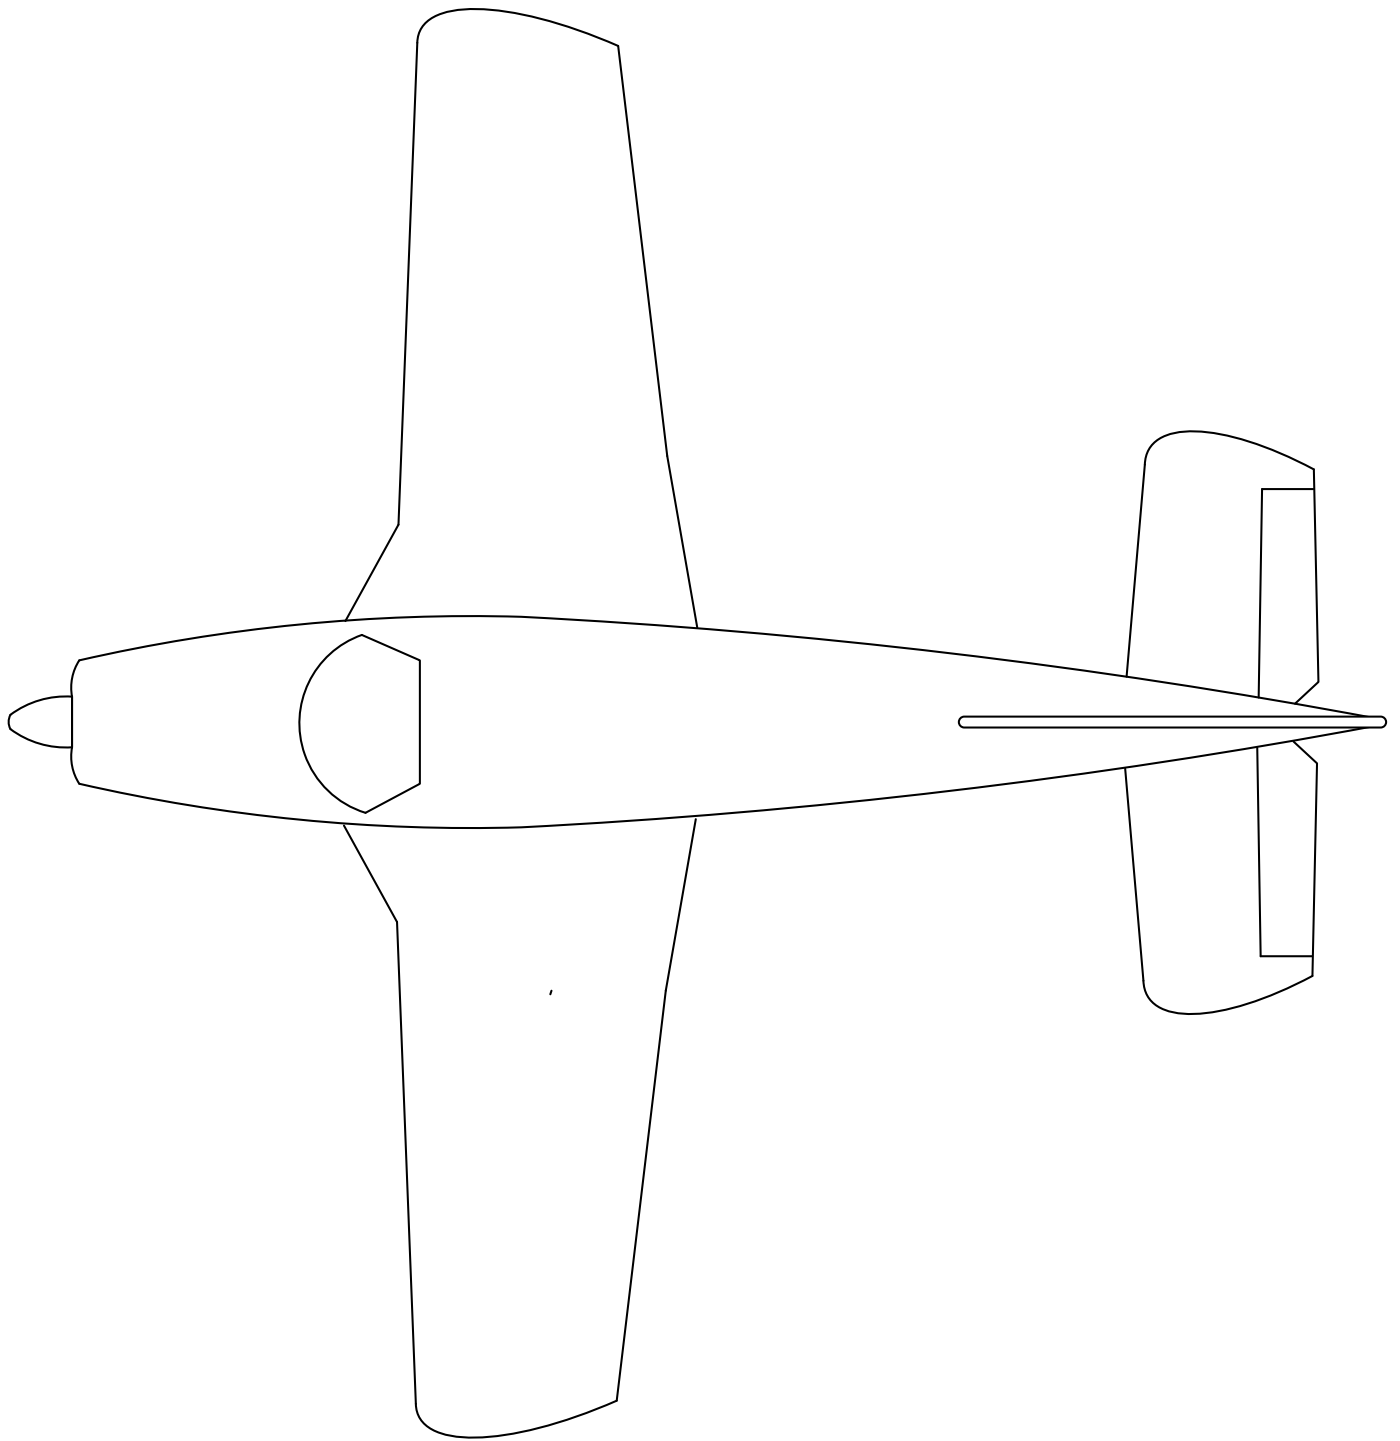

Figure 1 - EFD1000 Components and cable routing (top view)
- a) Draw in the locations of the EFD1000 system, including the EFD(s) (PFD, EBD, E5, MFD), RSM, optional ACU/ACU2, EBB58, EA100, CG100 and autopilot locations (Figures 1 and 2).